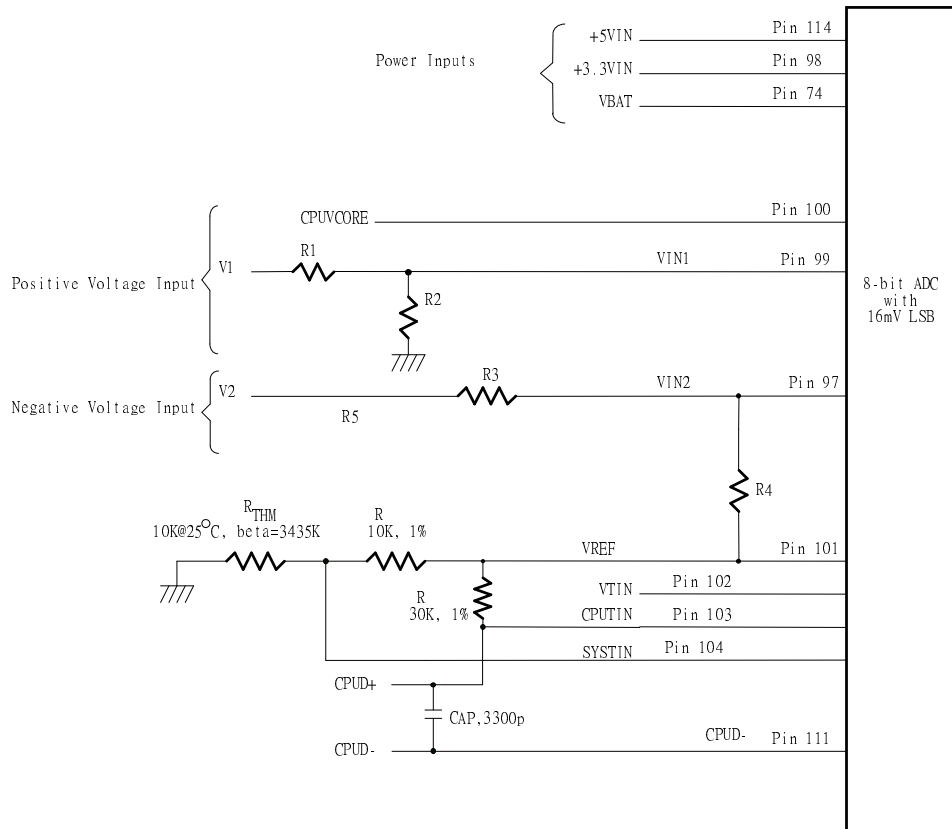

Figure. 6.2
The maximum input voltage of the analog pin is 4.096V because the 8-bit ADC has a 16mV LSB. Really, the application of the PC monitoring would most often be connected to power suppliers. The CPU V-core voltage, +3.3V, battery(pin 74) can directly connected to these analog inputs. The +12V voltage inputs should be reduced a factor with external resistors so as to obtain the input range. As Figure 6.2 shows.
The W83637HF can connect three thermistors to measure three different envirmnt temperature. The specification of thermistor should be considered to (1)  $\beta$  value is 3435K, (2) resistor value is 10K ohms at 25°C. In the Figure 6.2, the themistor is connected by a serial resistor with 10K Ohms, then connect to VREF (Pin 101).